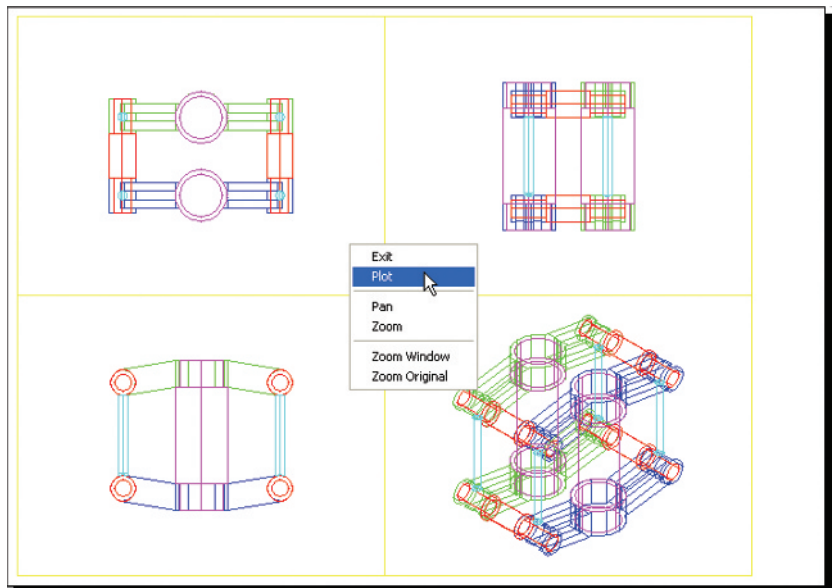

Fig. 19.8 First example – **Printing/Plotting**
First example – Printing/Plotting (Fig. 19.8)
11. Click the **Preview** button. The full preview of the plot appears (Fig. 19.8).
1. Open the 3D model drawing of the assembly shown in Fig. 19.8 in a single **Southwest/Isometric** view.